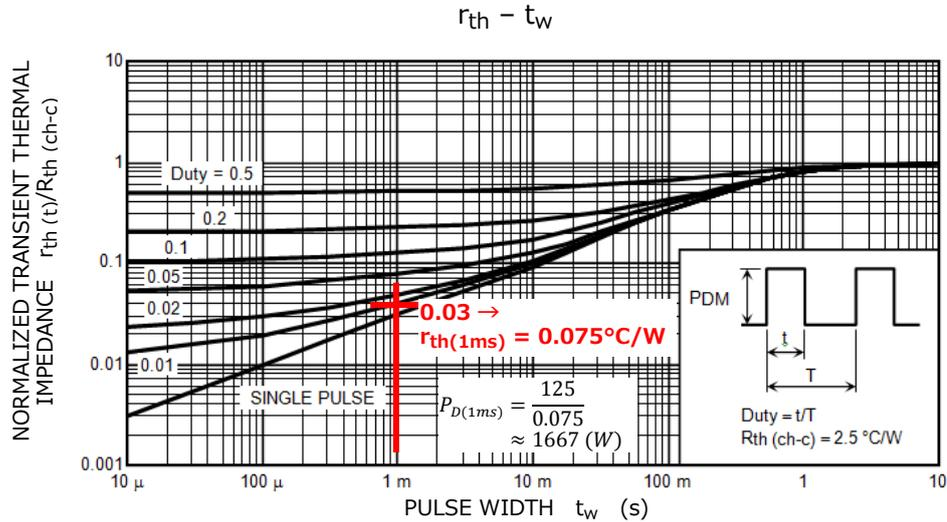

Figure 3.3 Transient thermal impedance curves
The power dissipation at  $t_w = 1$  ms,  $P_D(1 \text{ ms})$ , is calculated to be roughly 1667 W from the transient thermal impedance curves shown in Figure 3.3. The points through which the derating lines for the thermal limitation at  $T_c = 100^\circ\text{C}$  ( ④' to ⑤' ) and the secondary breakdown limitation ( ⑤' to ⑥' ) pass can be calculated in the same manner as for the  $T_c = 25^\circ\text{C}$  ( DC operation ) line.